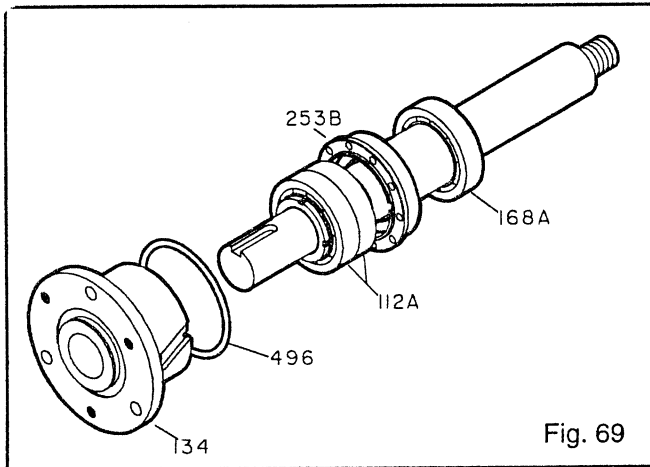

Fig. 69
5. Remove bearing housing (134) from shaft (122) with bearings (112A, 168A) (Fig. 69).
6. Remove bearing housing O-ring (496).